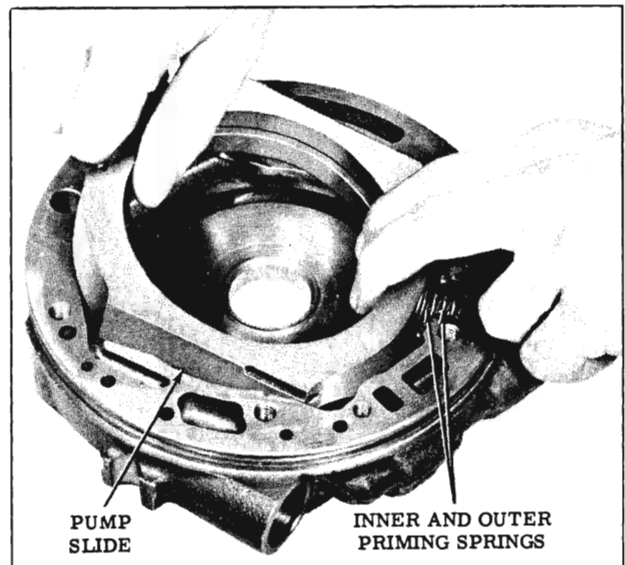

Fig. 3-279 Removing Pump Slide
4. Remove pump slide. (Fig. 3-279)